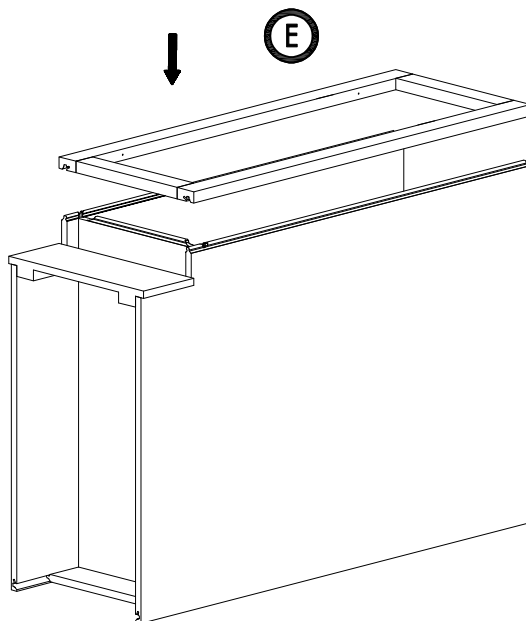

Figure 4
4. Install the frame: Insert the frame (E) into the groove of the side panel (A), bottom (C). Press down until they click into place. (Figure4)